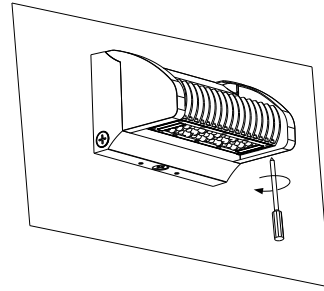

Figure 1-6
6.After installation, tighten the screws.(Figure 1-6)